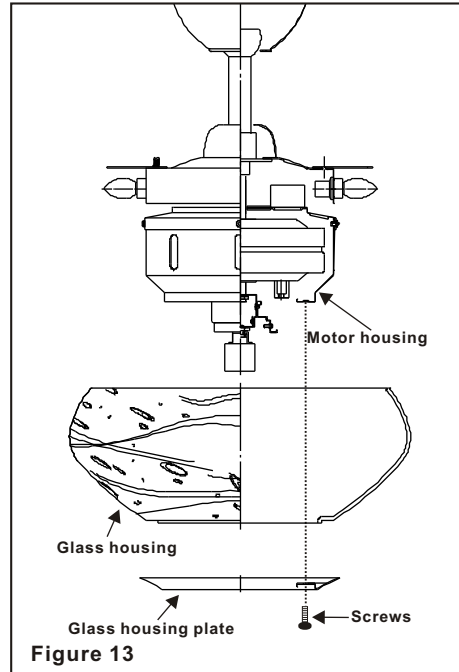

Figure 13
Step 2. Raise glass housing plate and glass housing up against bottom of motor housing, place the key holes from the glass housing plate over the 2 screws previously loosened, turn glass housing plate until it locks in place at the narrow section of the key holes. Secure by tightening the 2 screws previously loosened and the one previously removed. (Fig. 13)